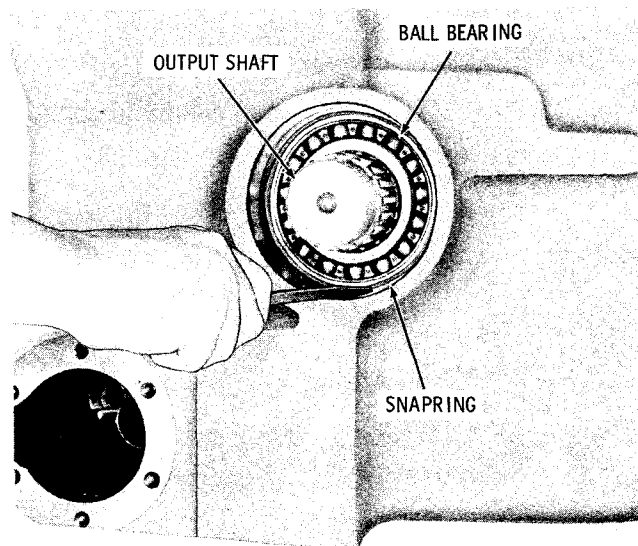

Fig. 5-35. Removing front output shaft bearing snapping
(2) Remove the snapping that retains the ball bearing at the forward end of the output shaft (fig. 5-35).